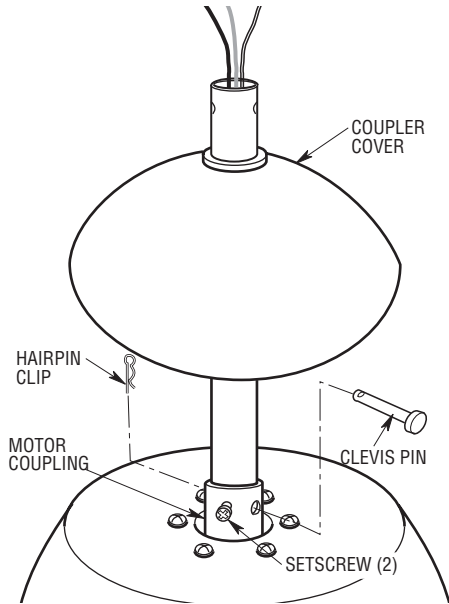

Figure 7
- 14. While pulling up on the downrod, securely tighten the two setscrews in the motor coupling (Figure 7).
- 15. Make sure the grommet is properly installed in the coupler cover then slide the coupler cover on the downrod until it rests on the motor housing. Place the ceiling cover over the downrod. Be sure both the ceiling cover and the coupler cover are oriented correctly (Figure 7).